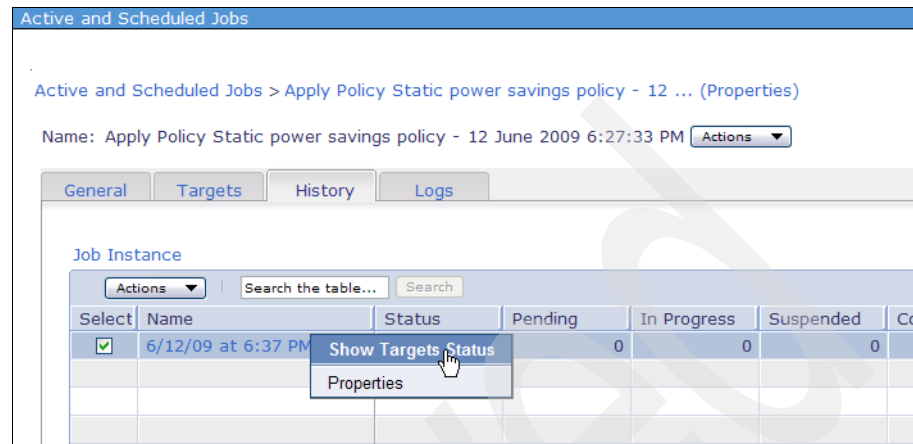
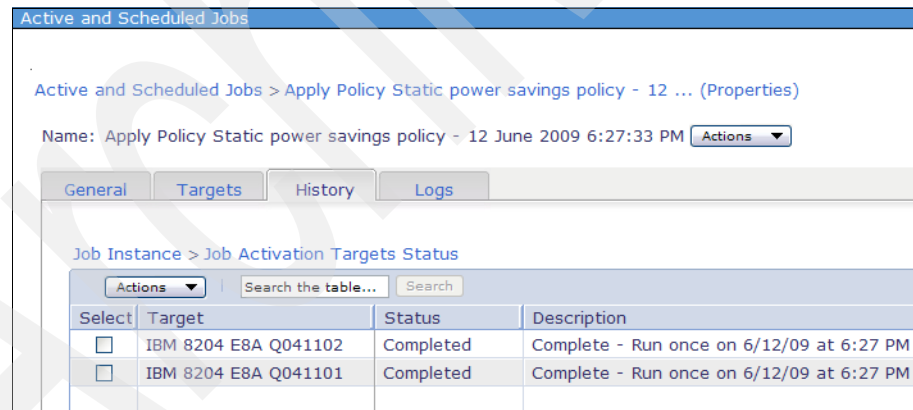

Figure 7-63 Applying a policy - 11
Figure 7-64 Applying a policy - 12
- d. The History tab (Figure 7-63) has an entry for each time this job was run. Reoccurring scheduled jobs have a row for each time the job was run.
- e. Click an entry or right-click an entry in Figure 7-63, and select **Show Targets Status** to see the status of each individual target for that particular run of the job (Figure 7-64).